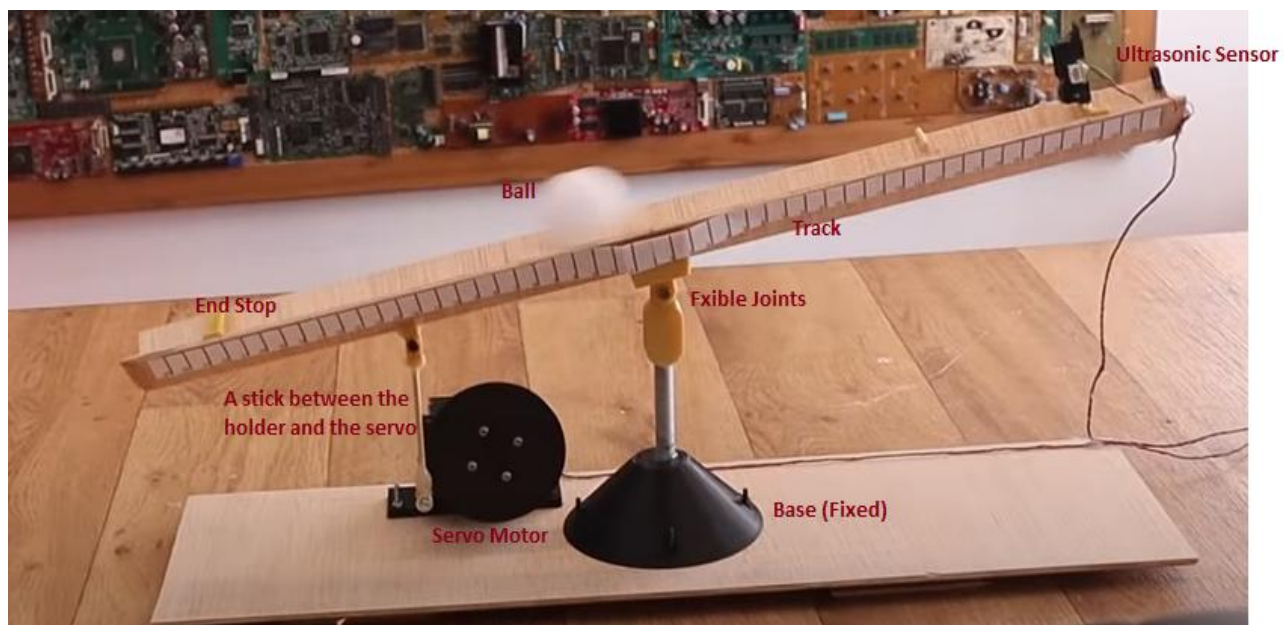

Figure 1: PID Ball Balancing System
Implementing a Model-Based PID Ball Balancing System as shown in Figure 1. The system makes use of any type of Arduino boards as it is our microcontroller platform, a servo motor, an ultrasonic sensor, and three potentiometers. The system should sense the position of a solid ball on a track by the ultrasonic sensor and return the ball to its predetermined position. The ultrasonic sensor should be placed at the beginning of the track. The sensor feeds back the ball's immediate position. This position is then fed into a proportional-integral-derivative (PID) controller, which has been programmed into the Arduino. Based on the predetermined and immediate position the error can be found and thus the PID should compensate for this error by itself and immediately. The  $K_p$ ,  $K_i$ , and  $K_d$  gains should be tuned manually using the potentiometers. Then the gains should be inserted into the PID block. The Servo motor is placed on a base under the track and is connected to it by a stick and flex joints to get the ability to move the track up and down until the ball returns to its position on the track. For more information visit the link in [1].
1. The system consists of a track, a flexible holder, and a base. In addition to a servo motor an ultrasonic sensor, and three potentiometer as illustrated in Figure 1.